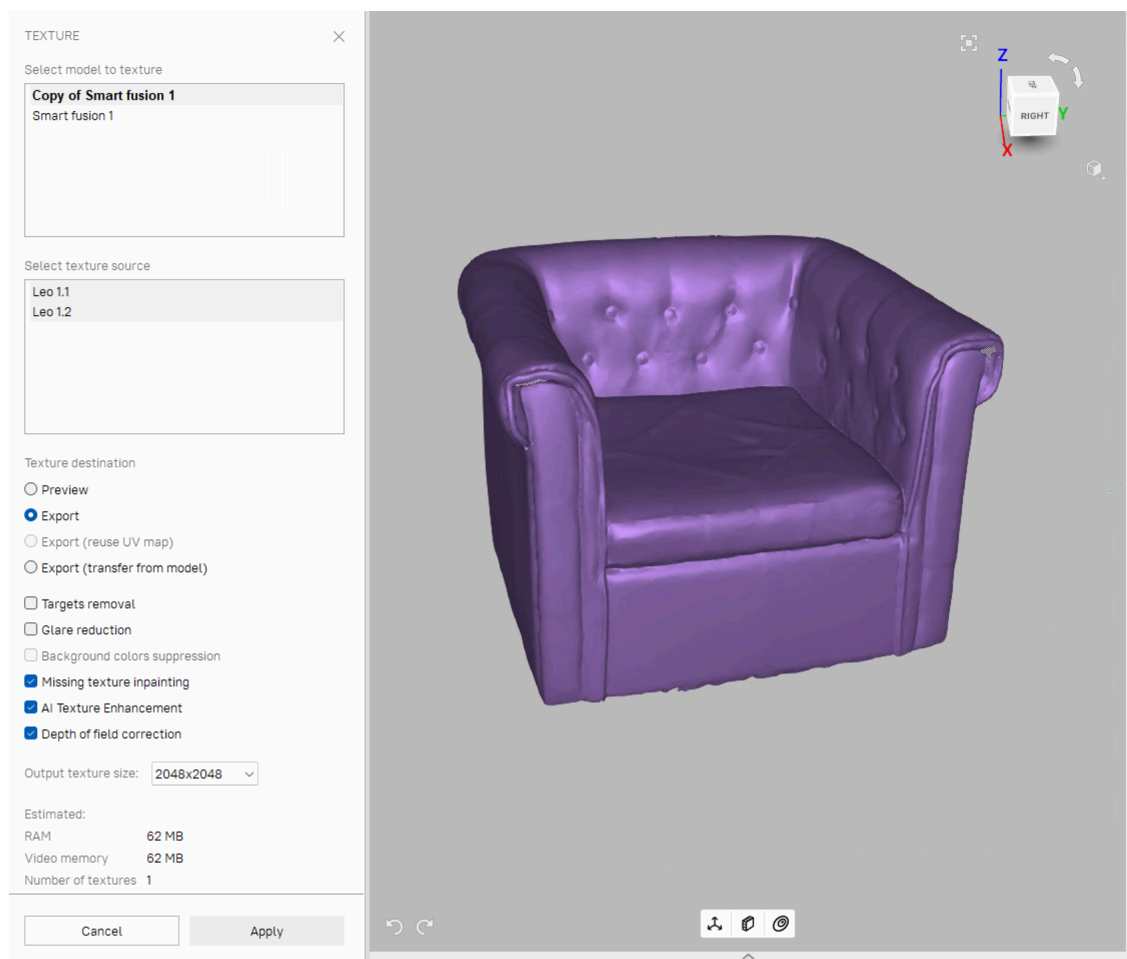

Figure 160: Choosing a texture-application method and adjusting its parameters.
2. Choose a model from the first list (see Figure 160); Artec Studio will apply the textures to this model.